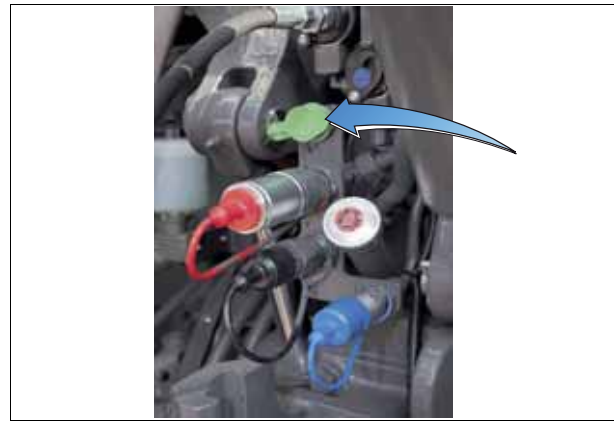

Fig. 3.
2. Connect the trailer hose to the union located at the rear of the tractor *fig. 3*